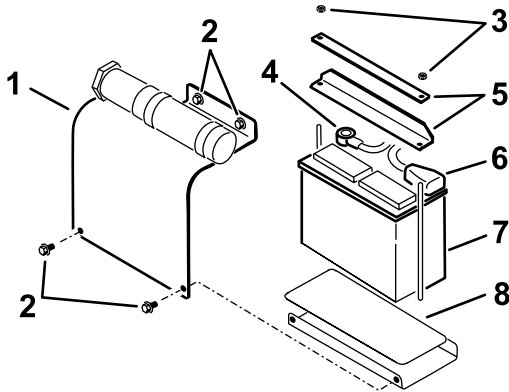

Figure 4
1. Remove the 4 bolts securing the battery cover and remove the cover (Figure 4).
2. Remove the nuts and bars securing the battery (Figure 4).
5. Install the battery onto the platform (Figure 4).
6. Secure the battery in the chassis with the bars and nuts removed previously (Figure 4).
7. Connect the positive (red) cable to the positive (+) battery post (Figure 4). Slide the rubber cover over the battery post.
8. Connect the negative (black) cable to the negative (-) battery post (Figure 4).
9. Install the battery cover with the 4 bolts you removed previously (Figure 4).